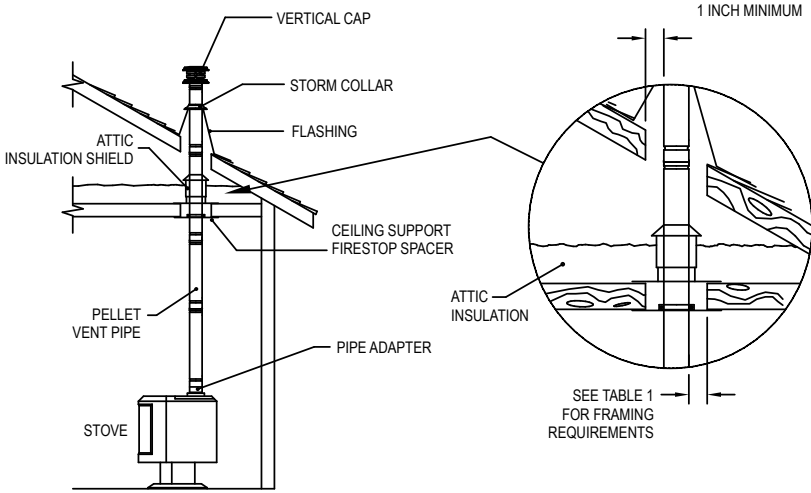

Figure 1
2. If the vent exit is on top of the stove (**Figure 1**):
F. When the PelletVent enters the Attic, install an Attic Insulation Shield around the vent (**Figures 1 & 3**). This will prevent insulation and debris from collecting near the vent pipe. Use (4) wood screws to secure the base of the Attic Insulation Shield to the framed opening. Adjust the height of the Attic Insulation Shield by sliding the top cylindrical shield over the one